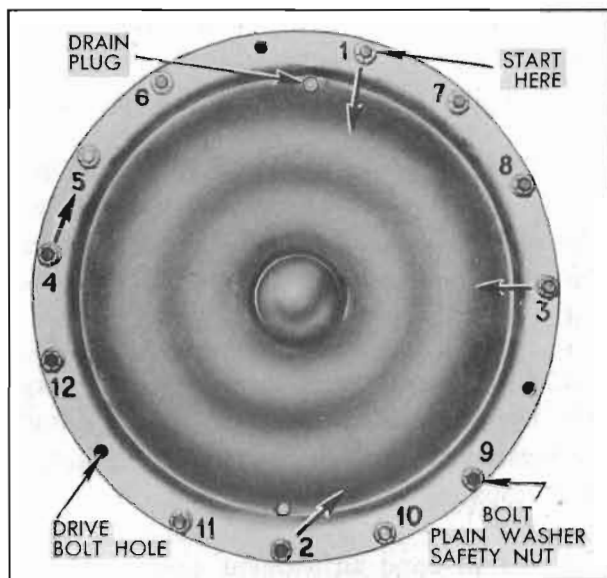

Figure 4-151—Primary Pump Cover Bolt Tightening Sequence
12. First making certain that all bolts and bolt heads are same length, install the first bolt with plain washer and safety nut in first hole to right (clockwise) of drain plug. Continue installation of bolts in clockwise direction but omit a bolt every fifth hole. Do not tighten bolts. See figure 4-151.
wheel bolt hole to align all bolt holes then tighten bolts to approximately 5 ft. lbs. torque in the numerical sequence shown in figure 4-151. Finally tighten all bolts in the same numerical sequence to 25-30 ft. lbs. torque.